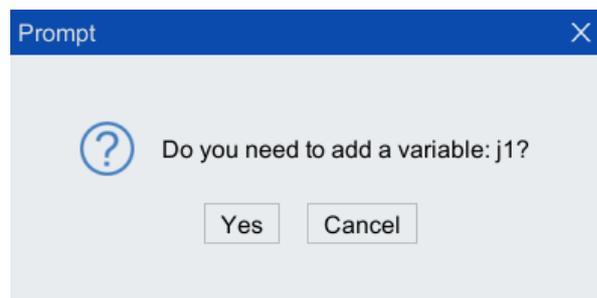
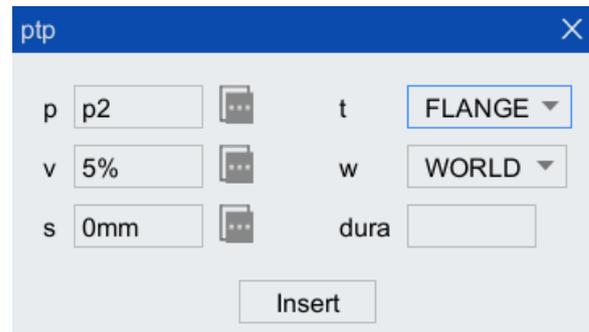

Figure 5-15 "Are you sure to create the variable j1" dialog box
Figure 5-18 "t/w variable" display box
- Step6. Click <Insert> button shown in Figure 5-11 to pop up "Are you need to create the variable j1" dialog box in Figure 5-15, and click <Yes> button. The instruction is inserted successfully.
selected tool or workpiece coordinate system (see Figure 5-18); if you want to modify it, you must complete the modification through "Revise Cmd" or "Get pose" in the toolbar of the program editor.
Step5. Click <Insert> button in Figure 5-18 to pop up "Are you sure to create the variable p1" dialog box, as shown in Figure 5-15. Click <Yes> button, and then the instruction will be inserted successfully.